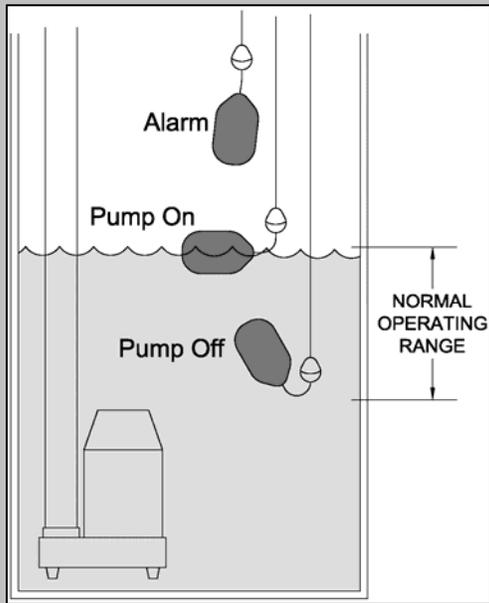

Figure 1
- a. Determine your normal operating level, as illustrated in **Figure 1** for a standard 3-float setup.